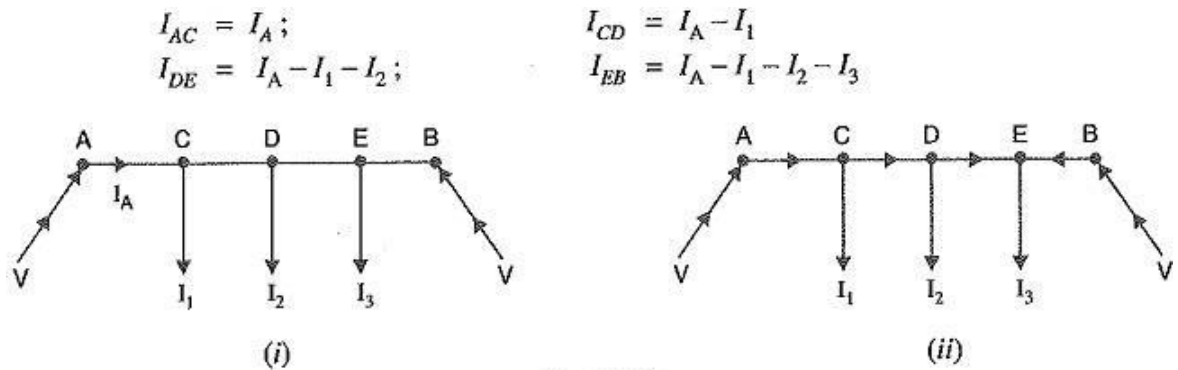

Fig. 13.15
- (i) Point of minimum potential.** It is generally desired to locate the point of minimum potential. There is a simple method for it. Consider a distributor AB having three concentrated loads I_1, I_2 and I_3 at points C, D and E respectively. Suppose that current supplied by feeding end A is I_A . Then current distribution in the various sections of the distributor can be worked out as shown in Fig. 13.15 (i). Thus
From this equation, the unknown I_A can be calculated as the values of other quantities are generally given. Suppose actual directions of currents in the various sections of the distributor are indicated as shown in Fig. 13.15 (ii). The load point where the currents are coming from both sides of the distributor is the point of minimum potential i.e. point E in this case